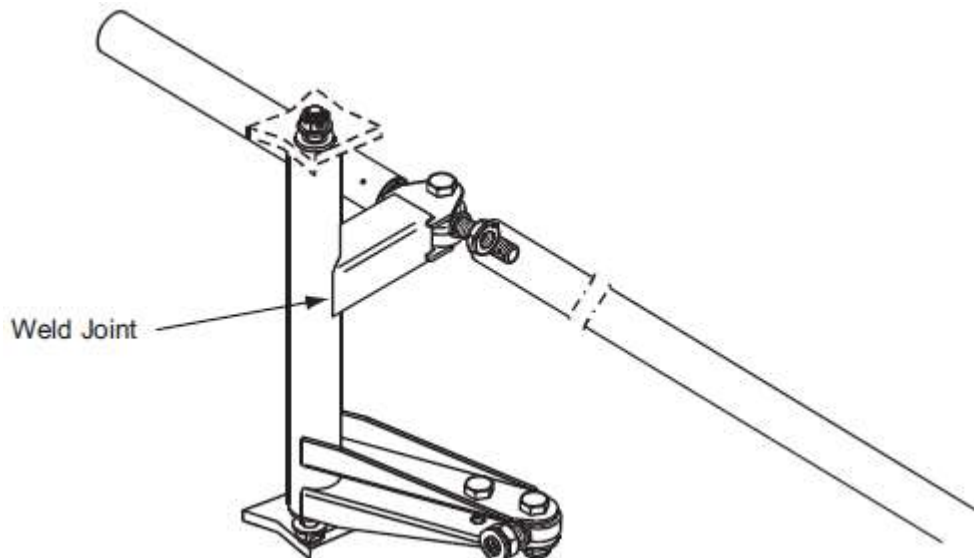

Figure 1 - flap bellcrank.
2. Inspect the flap bellcrank, P/N 22-2750-03-00 around the weld connecting the top arm to the bellcrank tube. Look for cracks or any other damage in the area around the weld joint from both sides of the bellcrank. In particular, look thoroughly on the left hand side at the base of the vertical weld. Refer to Figure 1.